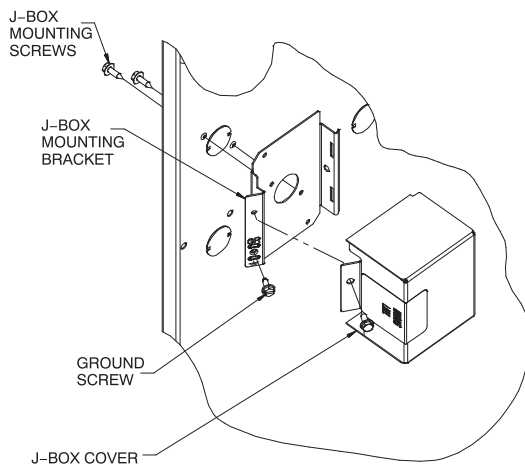

Fig. 33 - Installing J-Box (When Used)
The J-Box cover, mounting bracket and screws are shipped in the loose parts bag included with the furnace. See Fig. 33 for J-Box mounting locations.
- Install J-Box mounting bracket to inside of furnace casing. See Fig. 33.
- Connect field ground wire and factory ground wire to green ground screw on J-Box mounting bracket as shown in Fig. 33.
- Attach furnace J-Box cover to mounting bracket with screws supplied in loose parts bag. Do not pinch wires between cover and bracket. See Fig. 33.